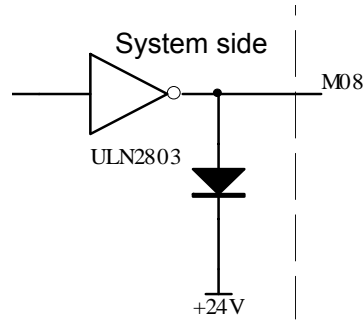

Fig.3-6-1 M08 internal circuit
- Internal circuit is as Fig. 3-6-1: